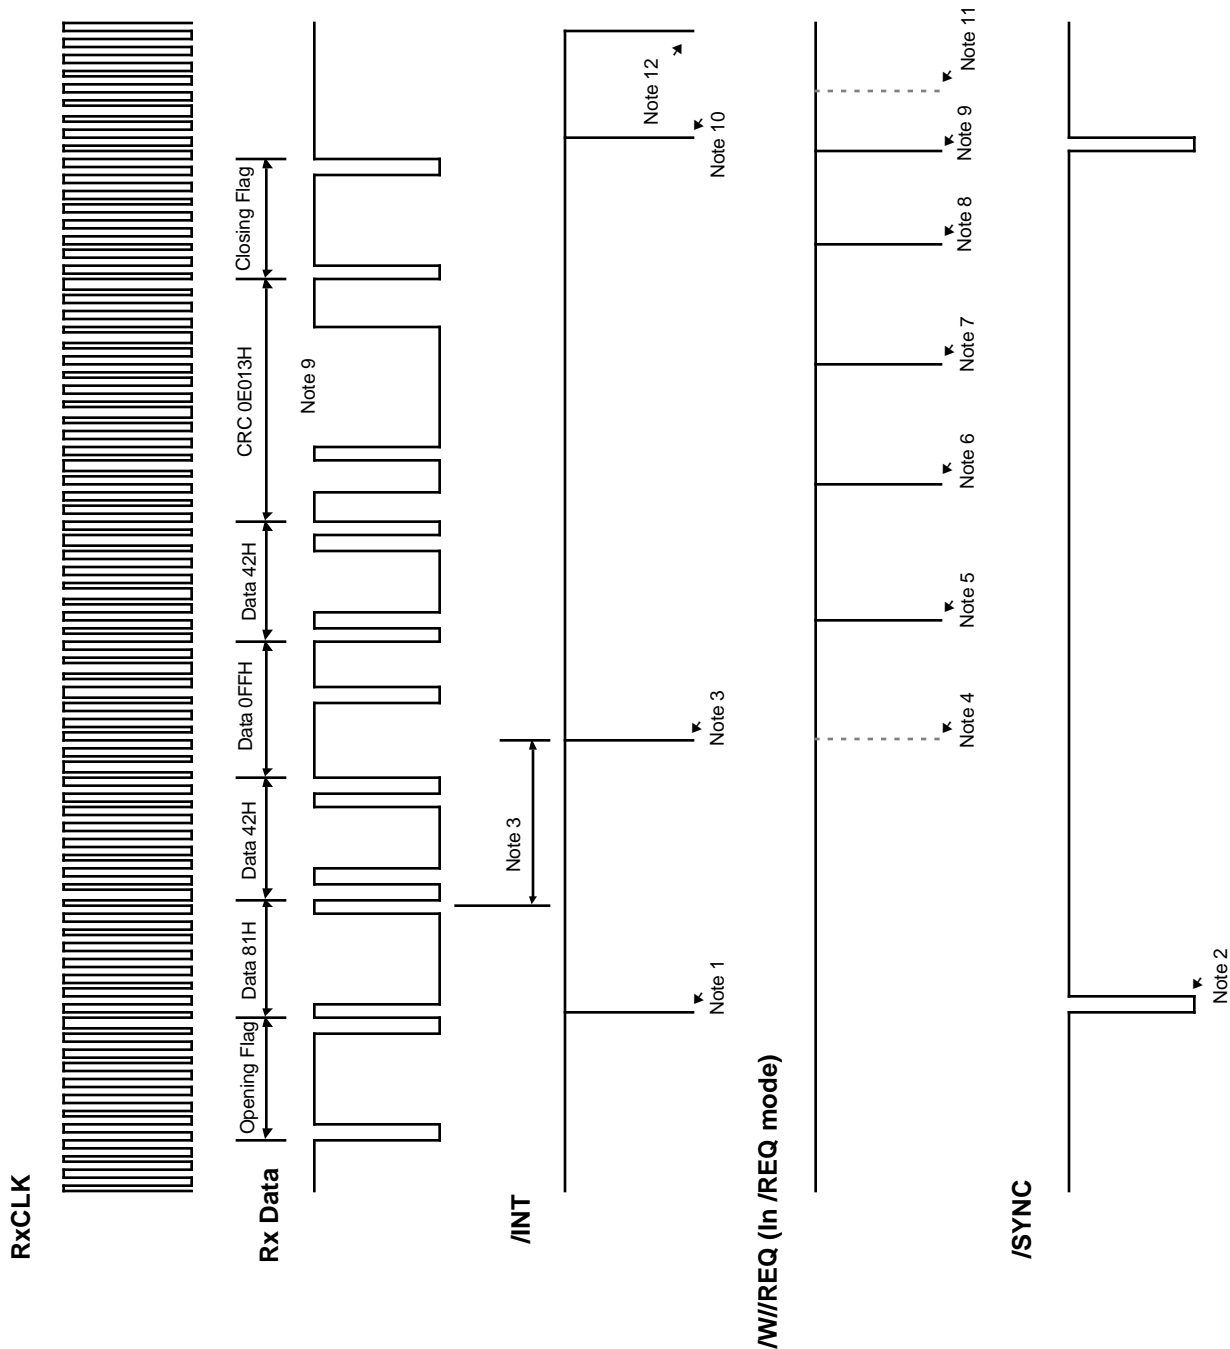

Figure 3. Typical SDLC Receive Sequence with Receive Interrupts on First Character or Special Condition
**Notes on Figure 3:**
The sequence of events in this mode is identical to the “Receive Interrupts on First Character or Special Condition” mode (Figure 3); Note 3, however, does not apply, and Note 4 should read as follows for this case: